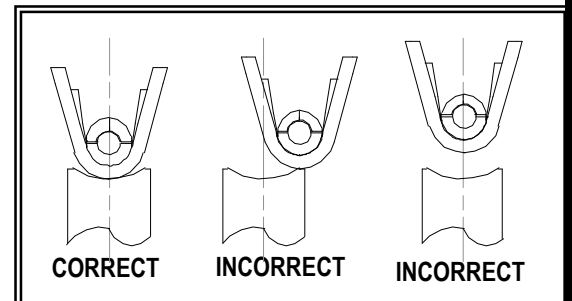

Figure 5
- With hand pressure, slowly slide the locator to the correct position. See Figure 5.